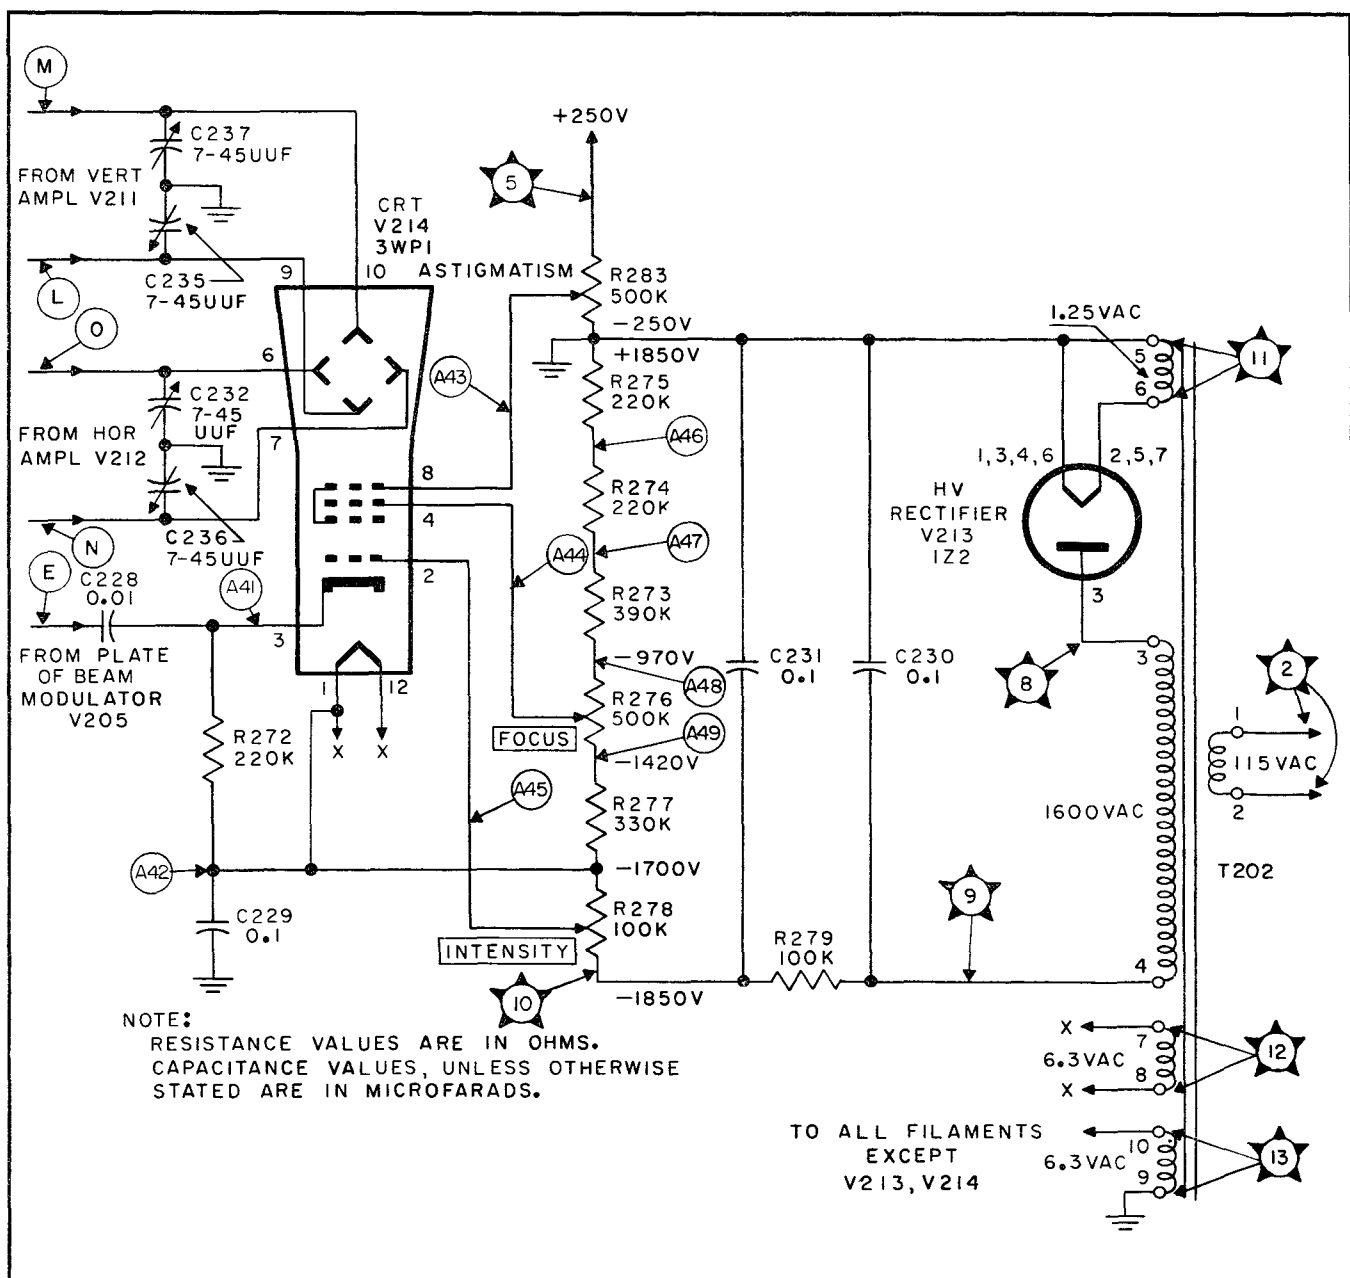

Figure 4-12. Azimuth Indicator Partial Schematic, Cathode-Ray Tube and High Voltage Supply
- g. Cathode-Ray Tube and High Voltage Supply (Figure 4-12).
4-50. CATHODE-RAY TUBE AND HIGH VOLTAGE SUPPLY. (Figure 4-12.)